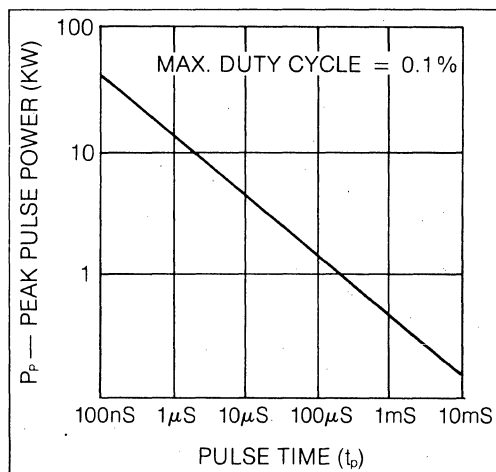

Figure 2 — Peak Pulse Power vs. Pulse Duration
1. Pulse power (P_p) — Choose the TVS series that will handle the Transient Pulse Power. To determine Transient Pulse Power use the simple equation in section 2.1. If I_{pp} is not known or measurable, it can be calculated — see Sections 3 and 4. The pulse duration vs. pulse power graph on the Unitorde TVS305/TVS505 data sheet can then be used to determine the TVS series that will handle the transient. This graph for the TVS505 series is shown in Figure 2.
- b. For $P_p(\text{rated})$ use value from TVS data sheet curve (See Fig. 2 for example).